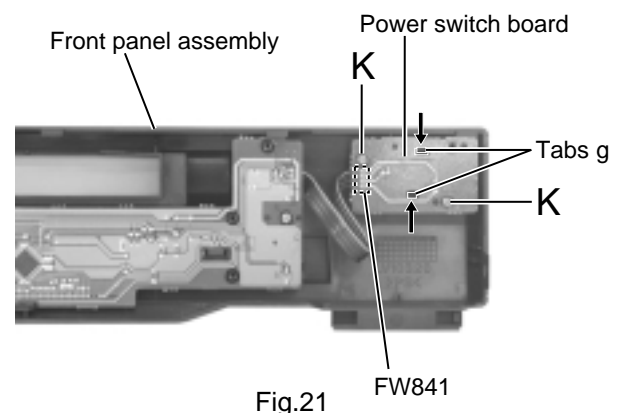

Fig.21
■ Removing the power switch board (See Fig.21)